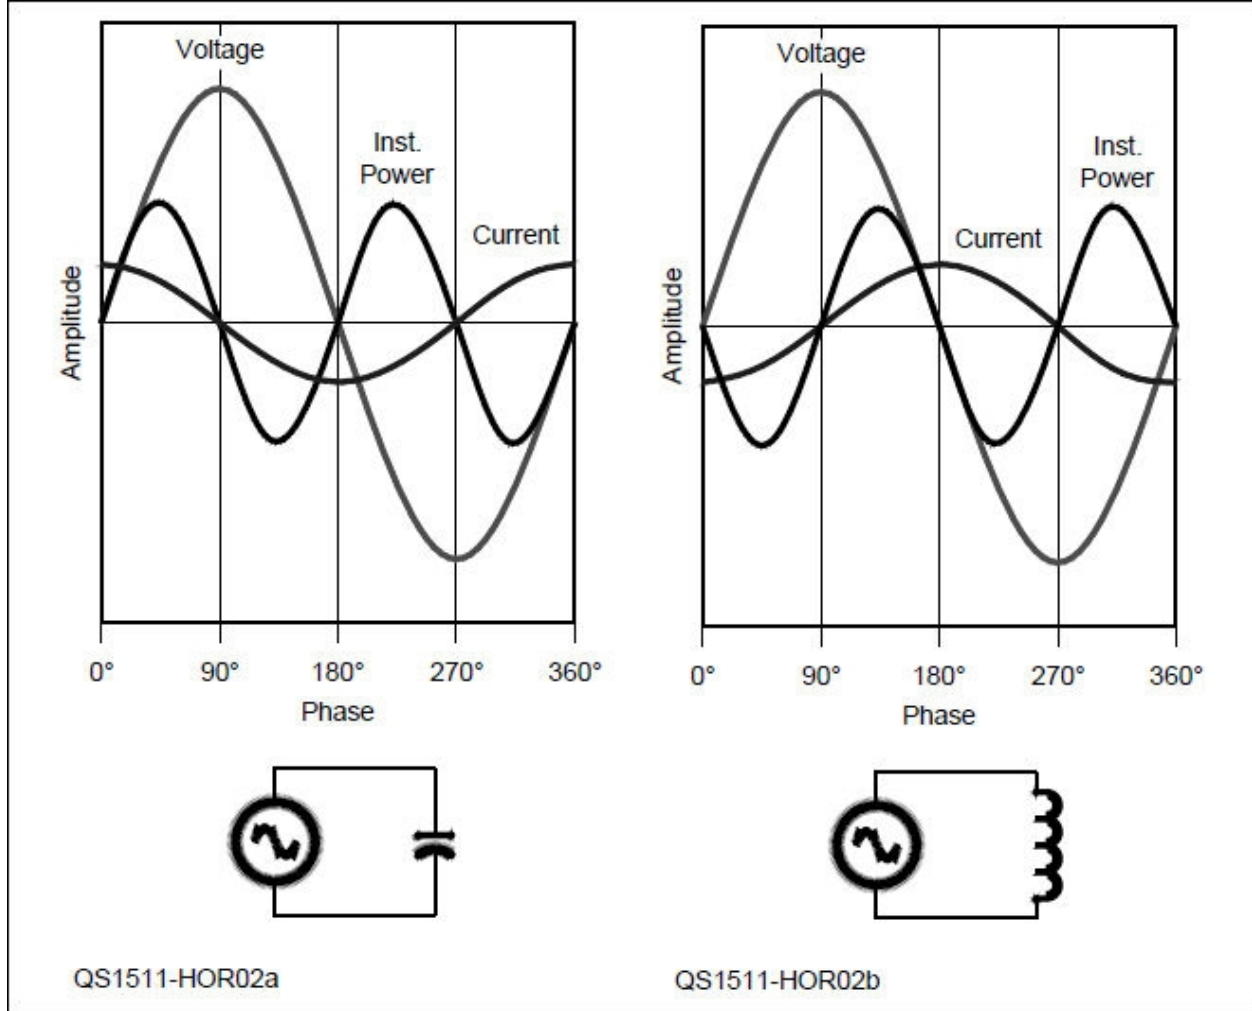

Figure 2 — Voltage (red), current (blue), and instantaneous power (black) in the series circuit of an ac voltage source and a capacitor (A) or an inductor (B).
Most other codes are *fixed-length*, such as RTTY's Baudot code (named for its inventor, Emile Baudot) and the common computer character code, ASCII. Figure 2 shows how a character is constructed from *mark* and *space* elements in the Baudot code. Each Baudot character consists of five consecutive bits with no intervening elements.
Figure 2 — The Baudot code's elements are termed mark and space. Over a radio channel, mark and space are represented by different audio tones. The bit on the right is sent and received first.
Power for which the voltage and current are in phase is called *real power* because the power does “real work” and is not stored or returned. Real power is labeled P and is measured in watts. Power for which the voltage and current are 90° out of phase (see Figure 2) is called *reactive power* because of the reactance creating the phase shift. Reactive power is labeled Q and is measured in *volt-amperes reactive* or VAR.
The important thing to learn from the Friis equation is that noise-reduction efforts should be made at the input to the system. A good example is the question of where to put a preamp in an antenna system. Figure 2 shows the difference between placing the preamp at the input to a lossy feed line and placing it at the receiver input.
Figure 2 — The difference in the system noise figure between placing a high-gain RF preamplifier at the antenna (A) versus at the receiving input (B). In this example, moving the preamp to the feed-line input reduces NF at the system input from 2.57 dB to 1.13 dB, a significant improvement. The arrows and associated values indicate the point at which noise factor and noise figure are calculated.